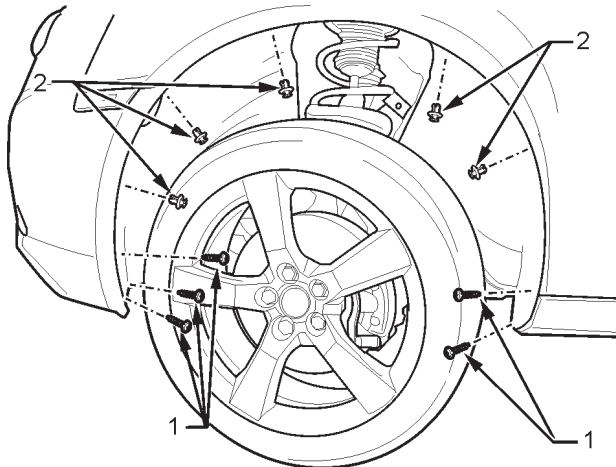

FIGURE 43
21. Remove the front wheel well liner by removing the three screws from the front and two screws from the rear of the liner (1). Use a trim release tool to remove the five scrivenets (2) and remove the liner. Refer to figure 43.